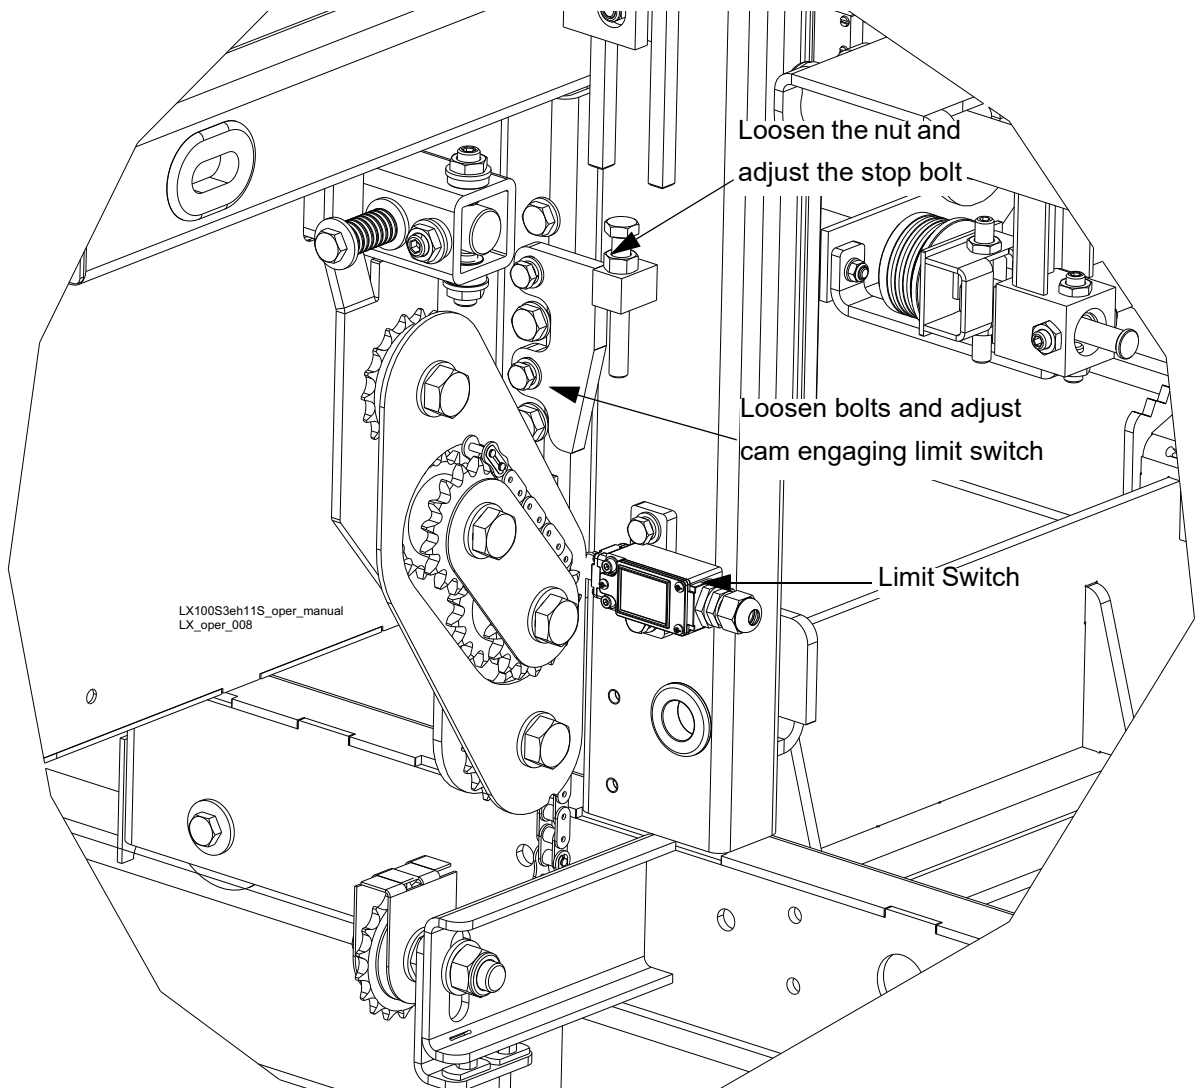

FIG. 3-8
- Cam engaging the limit switch and/or stop bolt - See Figure 3-8.
See Figure 3-8. Adjust the cam (A) engaging the limit switch (B) as well as the saw head stop bolt